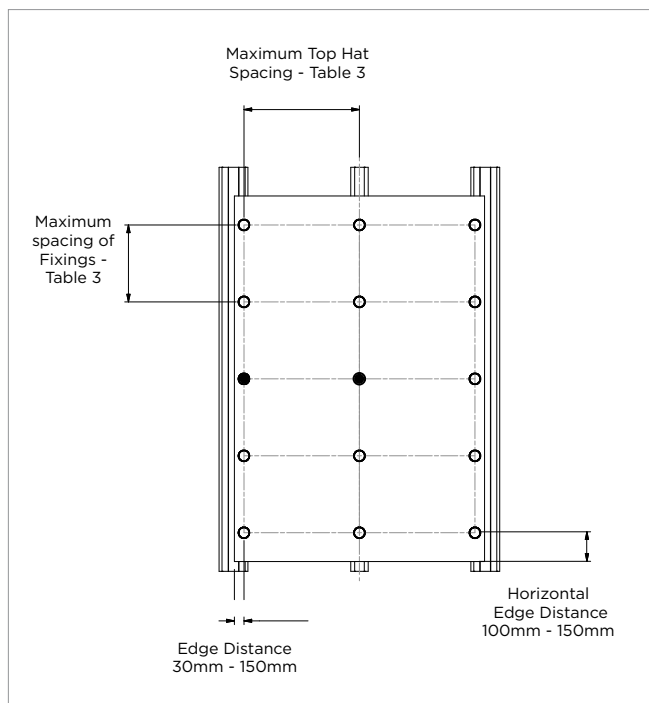
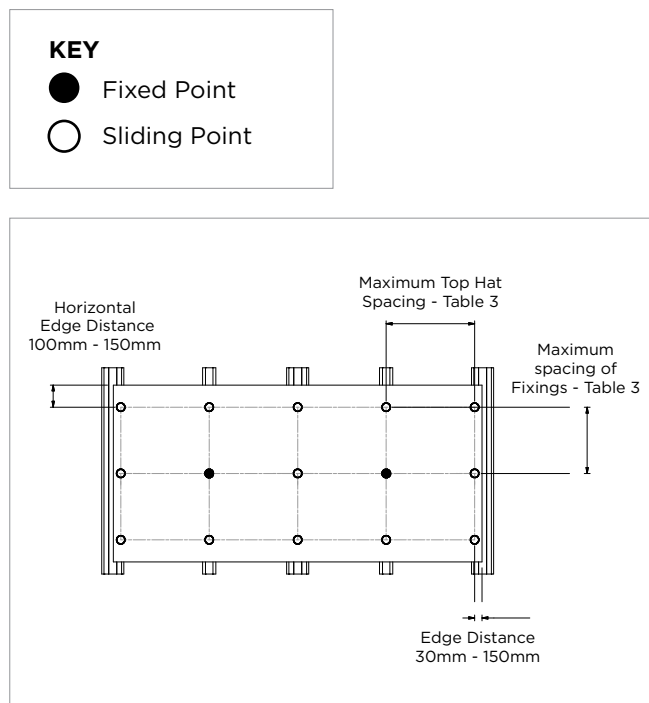

Figure 11.
Figure 12.
- When installed in a vertical layout, the boards must have at least two fixed points as close to the centre of the panel as possible. (see Figure 11)
- CeramaPANEL facade boards must be fixed in accordance with Table 3 and minimum edge distances as specified in Figure 11 and Figure 12. Appropriate panel fixing layout should be selected for the project Design Wind Pressure, Top Hat Spacing and Panel Fixing Type.